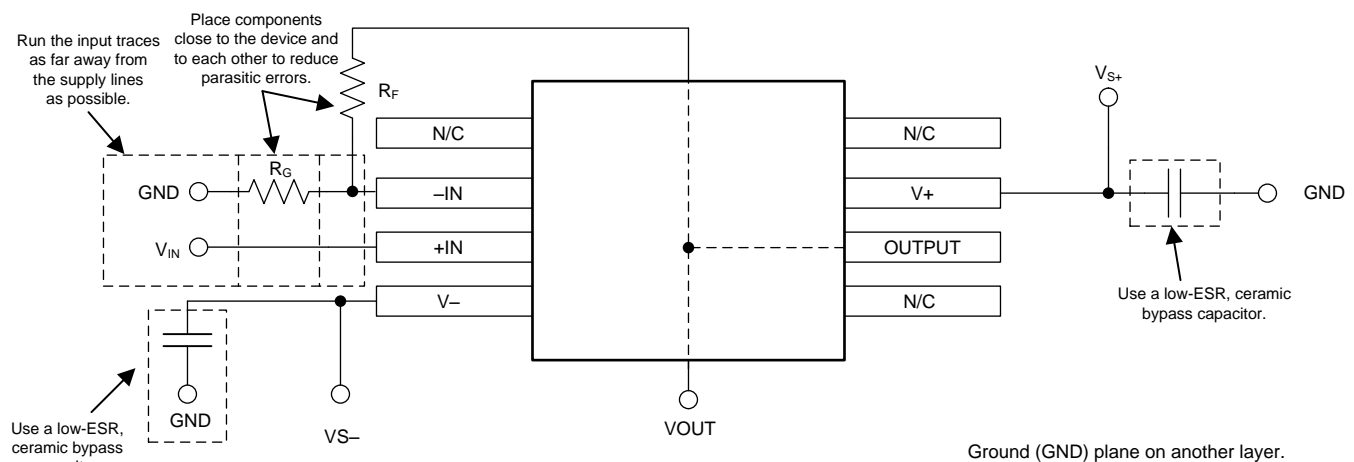

Figure 21. Operational Amplifier Board Layout for Noninverting Configuration
- Place the external components as close as possible to the device. Keep  $R_F$  and  $R_G$  close to the inverting input in order to minimize parasitic capacitance, as shown in Figure 21.